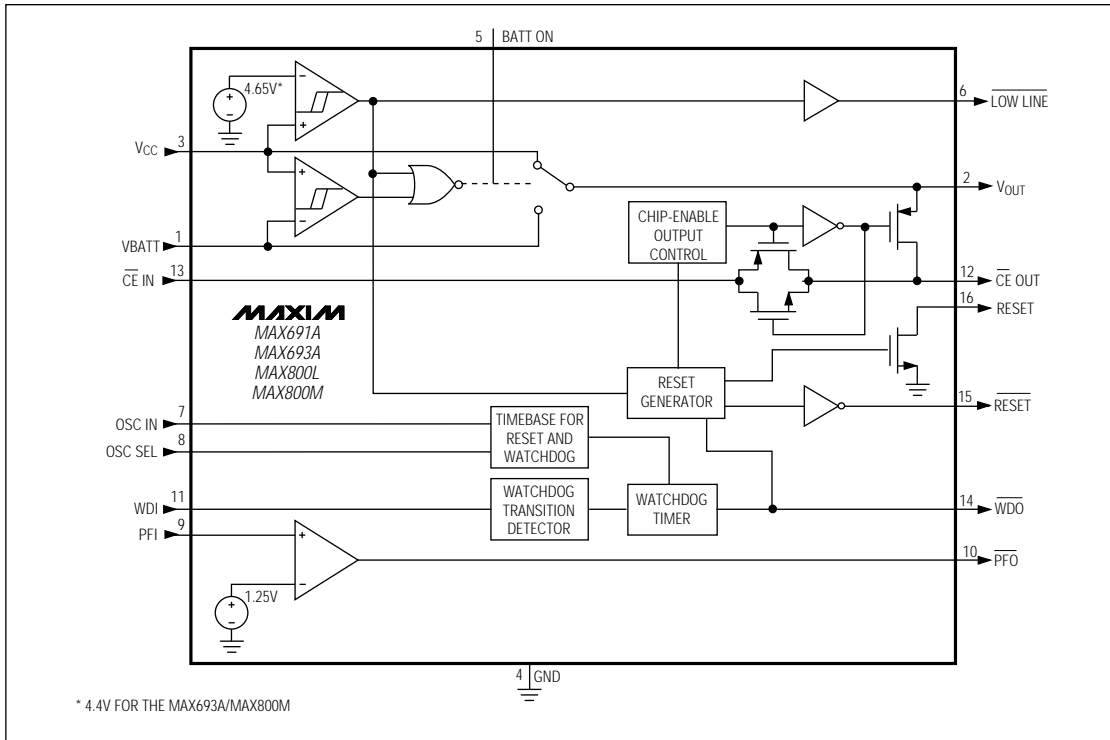

Figure 4. MAX691A/MAX693A/MAX800L/MAX800M Block Diagram
The MAX691A/MAX693A/MAX800L/MAX800M provide internal gating of chip-enable (CE) signals to prevent erroneous data from being written to CMOS RAM in the event of a power failure. During normal operation, the CE gate is enabled and passes all CE transitions. When reset is asserted, this path becomes disabled, preventing erroneous data from corrupting the CMOS RAM. All these parts use a series transmission gate from  $\overline{CE}$  IN to  $\overline{CE}$  OUT (Figure 4).